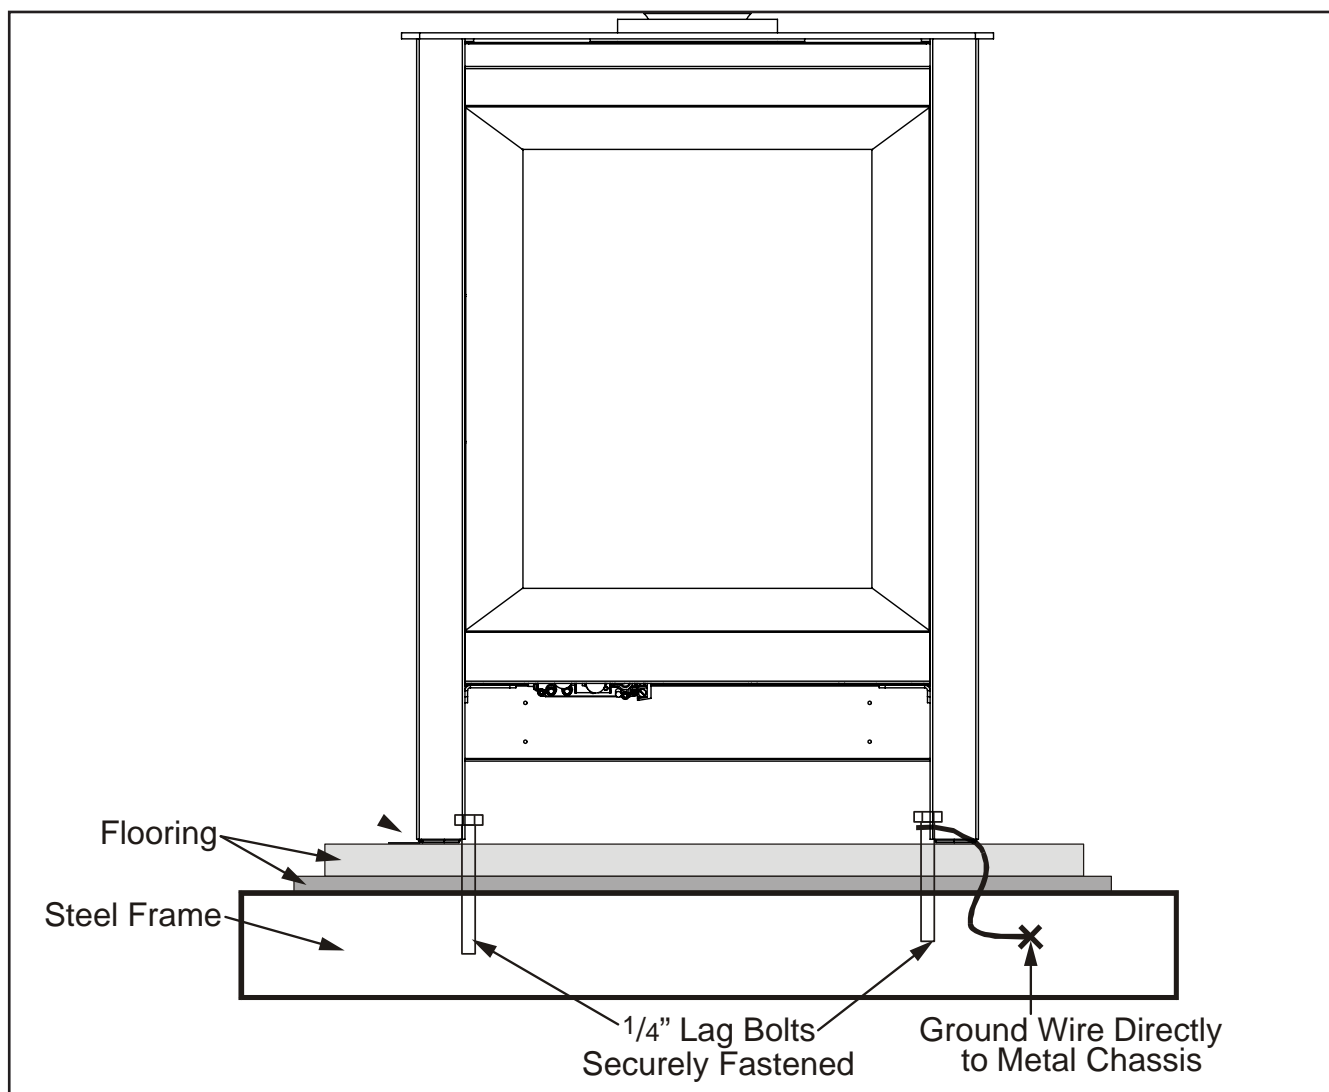

Figure 30: Correct Mobile Home Installation
- Using a T20 screwdriver remove the three front screws and three rear screws on each cabinet side panel. Remove the cabinet side panels (see Figure 30)
- Secure the S20 to the floor using the two holes (one per side) in the pedestal and hearth pad (if used) (see Figure 30).